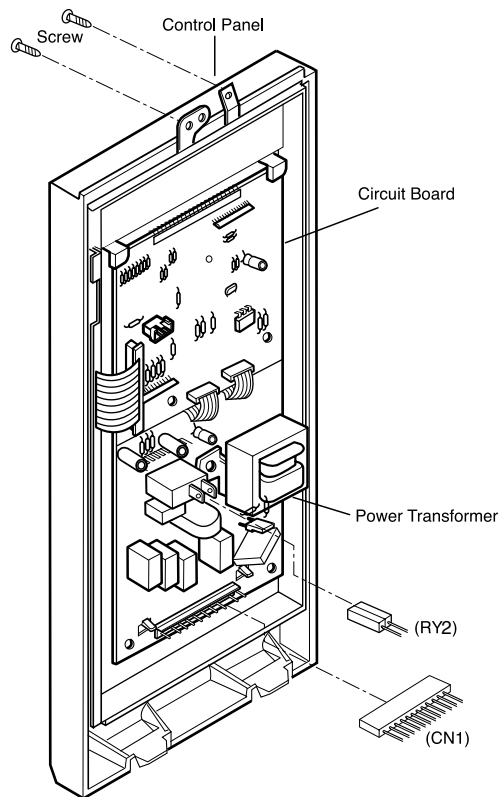

Figure 1
A. REMOVING POWER AND CONTROL CIRCUIT BOARD (Figures 1, 2 and 3)
- (1) Remove a screw securing the control panel assembly to the oven cavity.
- (2) Remove the control panel with pushing it upward.
- (3) Remove the connectors (CN1) and wire leads (RY7) from the circuit board.